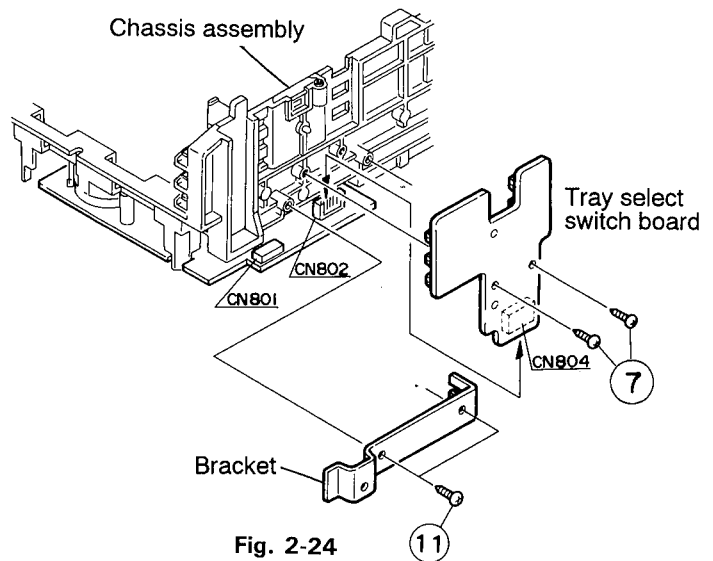

Fig. 2-24
2. Remove the two screws ⑥ retaining the actuator motor board (See Fig. 2-24).
3. Remove the two screws ⑪ retaining the bracket (See Fig. 2-24).
4. Remove the two screws ⑦ retaining the tray select switch board (See Fig. 2-24).